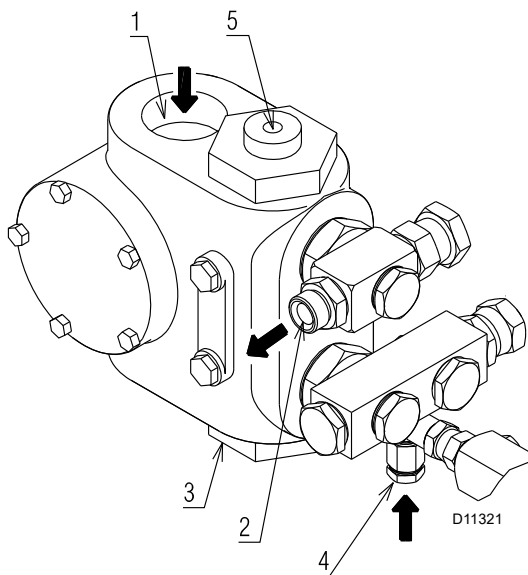

Fig. 21
Key (Fig. 21)
- In order for the pump (Fig. 21) to be able to self-prime, the screw 4) must be loosened to purge the air in the suction line.
If the pump has been drained, fill it with fuel through the opening on the vacuumeter 4)(Fig. 21) prior to starting; otherwise, the pump will seize.